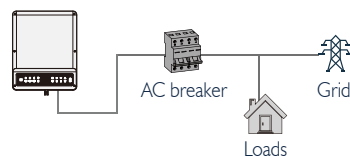

Figure 2.4.2-2
• Requirement of AC cable connected to On-Grid and Back-Up side (Figure 2.4.2-3)